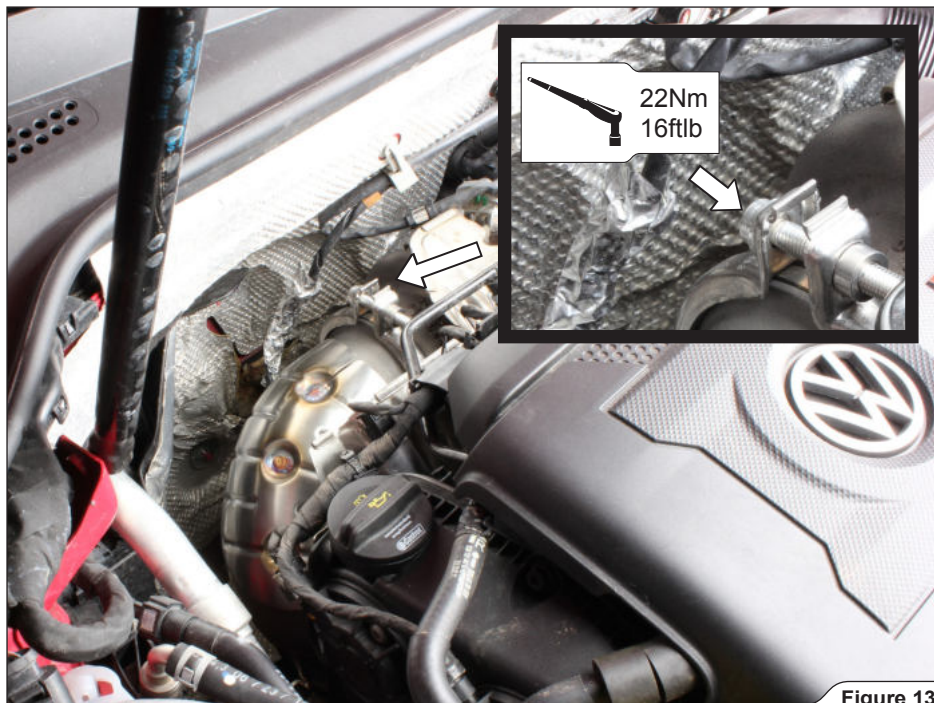

Figure 13
4. Attach the Down Pipe to the turbo charger, using stock clamp (**Figure 13**).